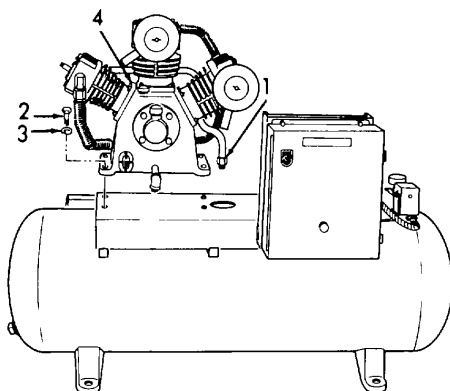

Figure 3-17. Air Compressor, Removal.
a. *Removal.* (Refer to Figure 3-17).